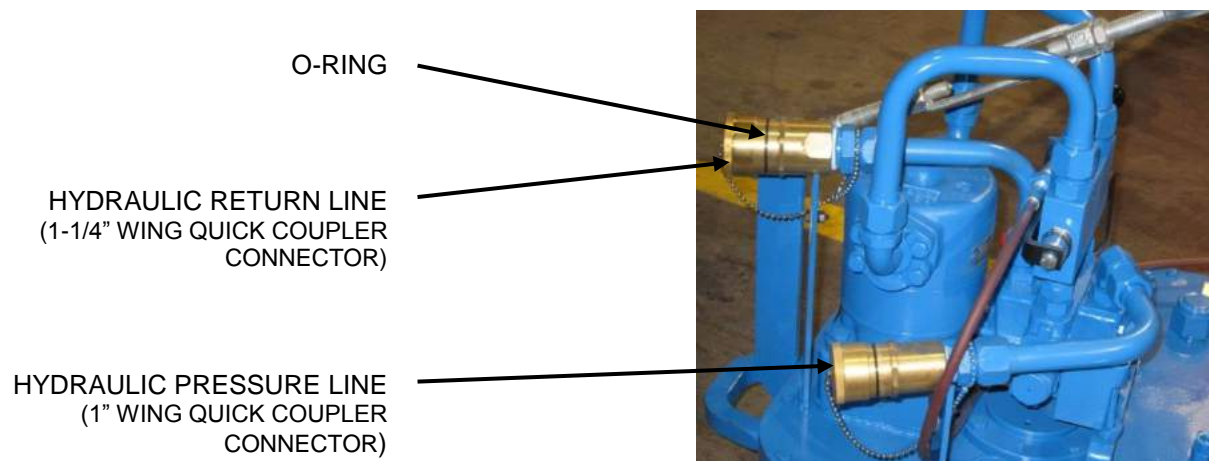

FIGURE 7.01: HYDRAULIC LINE CONNECTORS
7. Hookup the hydraulic power unit to the Tong (refer to Figure 7.01 for hookup locations and fitting sizes). Ensure the wing quick couplers are screwed tight all the way until the o-ring on the male end is fully covered by the wing nut. Ensure that the oil can freely flow through the Tong.